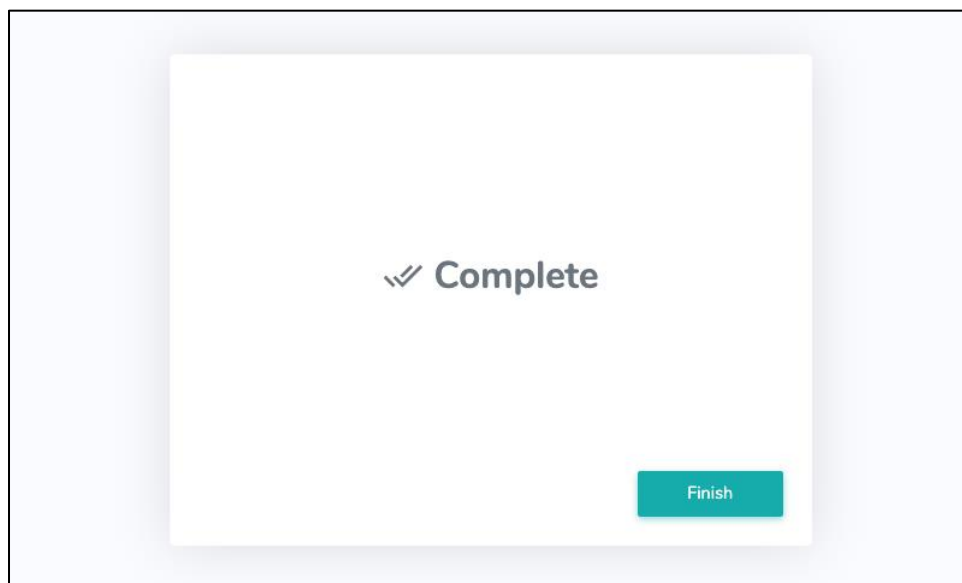

Figure 13
9. The initial setup is now complete (Figure 13). Tap 'Finish' to go to the *Dashboard* page.